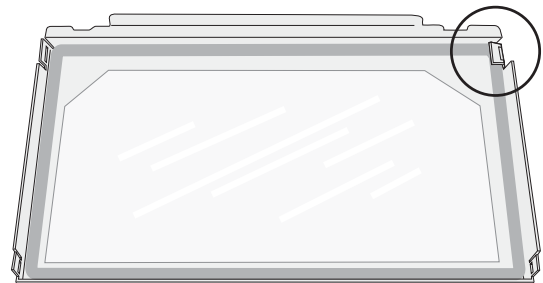

Figure 74. Bend the retainer tabs back enough to release the glass panel.
5. The glass panel is held in place by four tabs on the frame. Use a screwdriver or small pliers to pry these up enough to release the glass panel. See fig. 74.